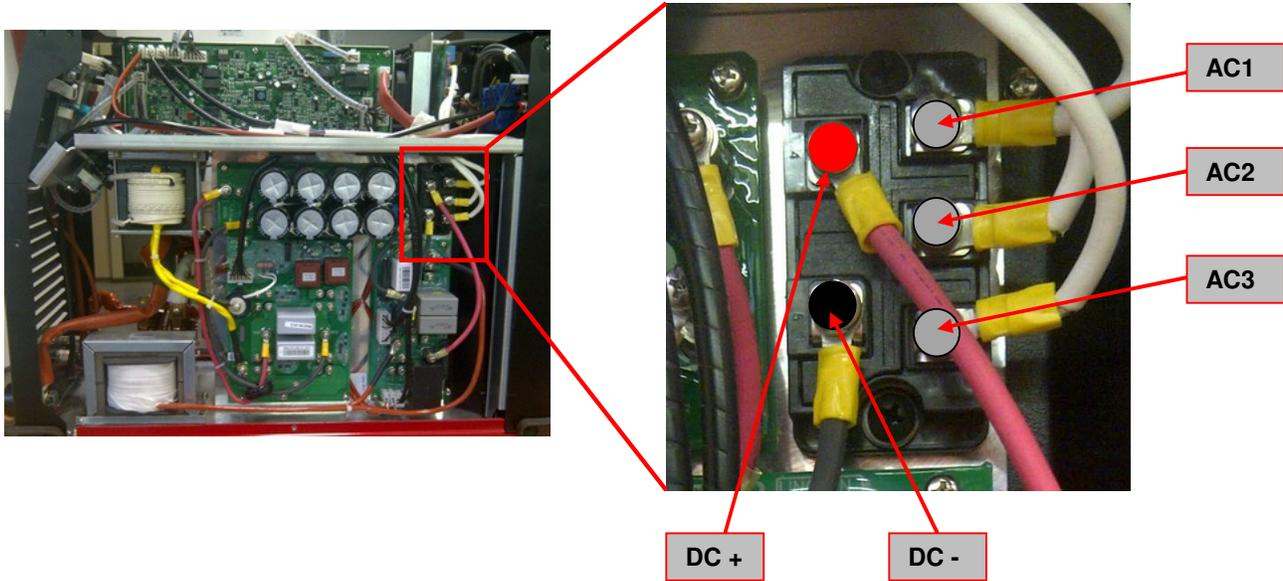

Figure 3 – Input Rectifier Bridge location and Test Points
3. Locate the Input Rectifier Bridge on the right side of the machine. See **Figure 3**.
4. Perform the tests as detailed in **Test table 3**. See also **Figure 3** for terminals locations.